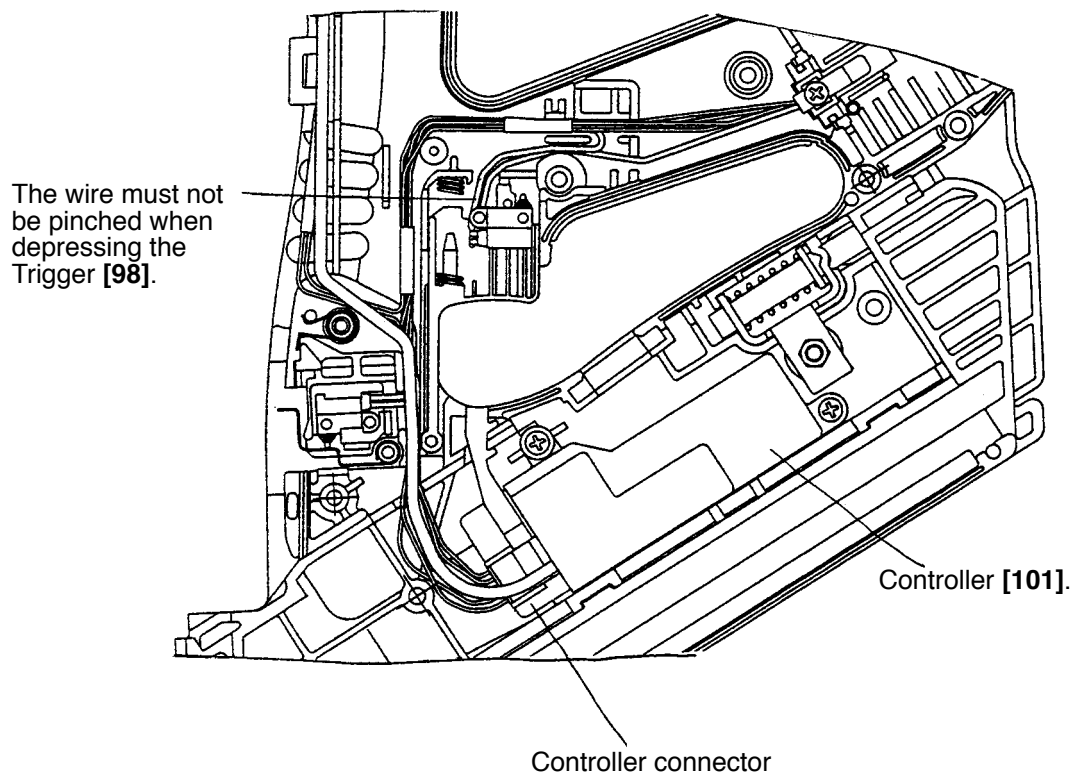

Fig. 16
3. Faulty insulation of Spark Plug (A) [11]. ⇒ Replace Spark Plug (A) [11].
4. Check whether the trigger switch wire in the Trigger [98] is pinched or not (Fig. 16).
5. Switch Lever (B) [114] is faulty. ⇒ Replace Switch Lever (B) [114].
7. No sparking occurs even if the switch in the Trigger [98] is directly turned on. ⇒ Replace Internal Wire (A) [86].